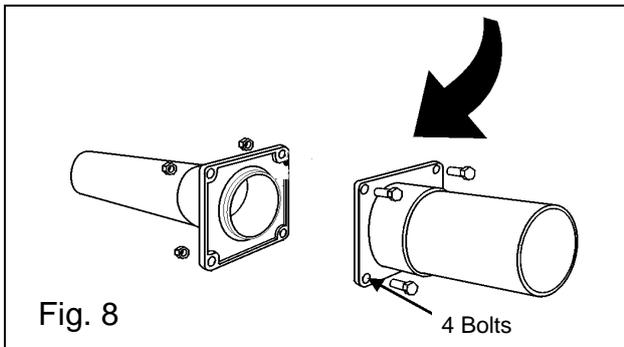

Fig. 8
Step 9: Ref **Fig. 8:** Separate pipe flanges and insert Drain Master **with gate closed** making sure the seals are in their correct position **on the flanges.** See Step 7. Rotate the valve to align the four bolt holes with the flange holes and insert the four new bolts and nuts. :